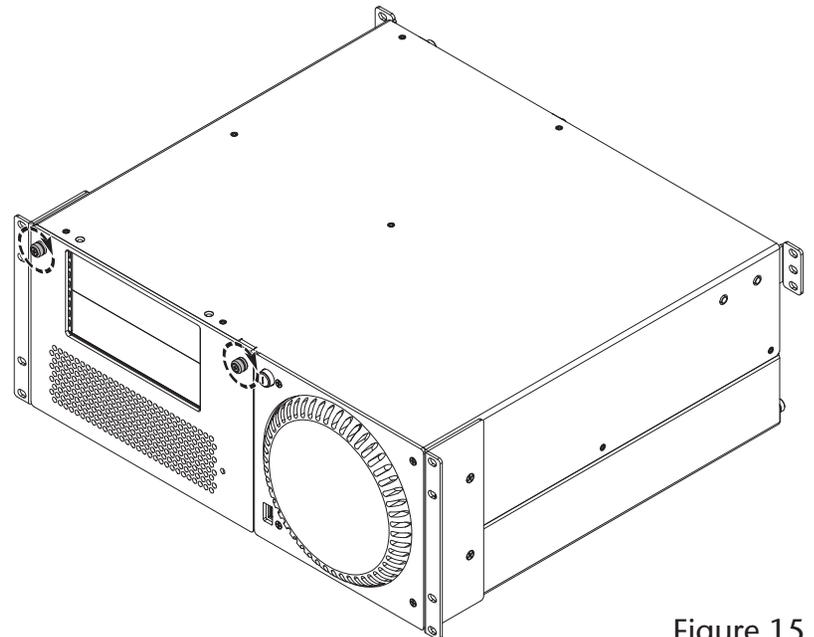

Figure 15
11. Secure the PCIe card expansion module to front of the rackmount enclosure by turning the two thumbscrews clockwise (Figure 15).